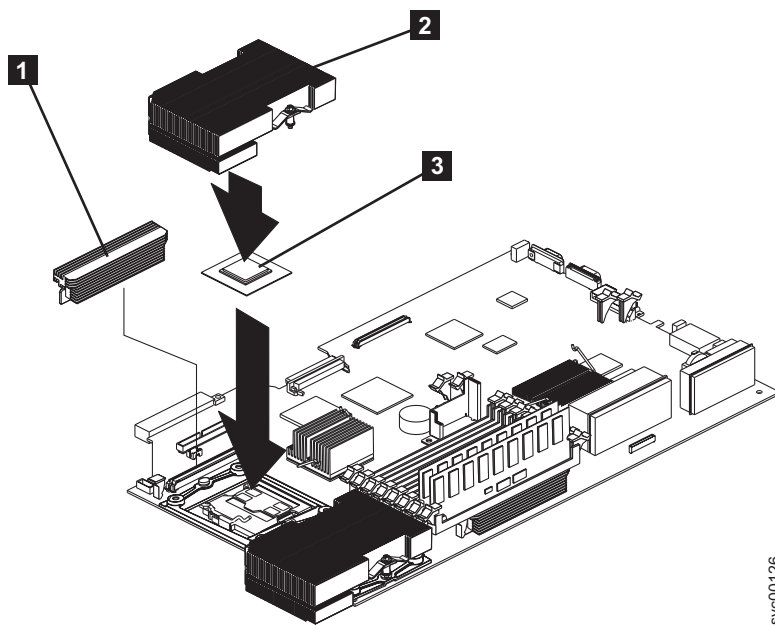

Figure 270. Microprocessor and heat sink locations
7. Install the heat sink **2** on top of the microprocessor **3**, as shown in Figure 270.